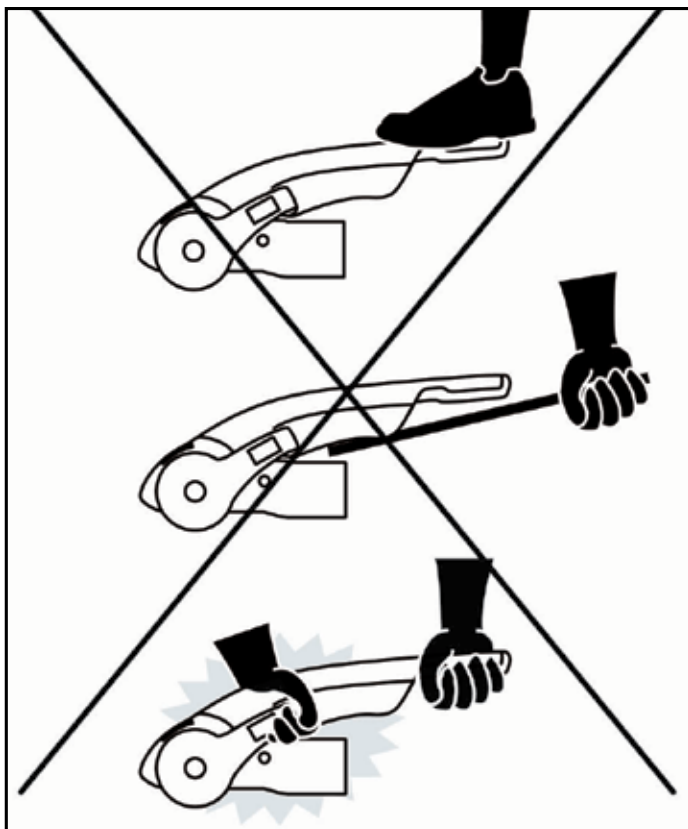

Fig 6.
2) Press stabiliser lever down by hand force only DO NOT use your foot or an extension bar, this will damage the components (Fig. 6).
3) When opening or closing the stabiliser lever, please ensure your hand does not touch the coupling handle - you may accidentally trap your fingers! (Fig. 6).